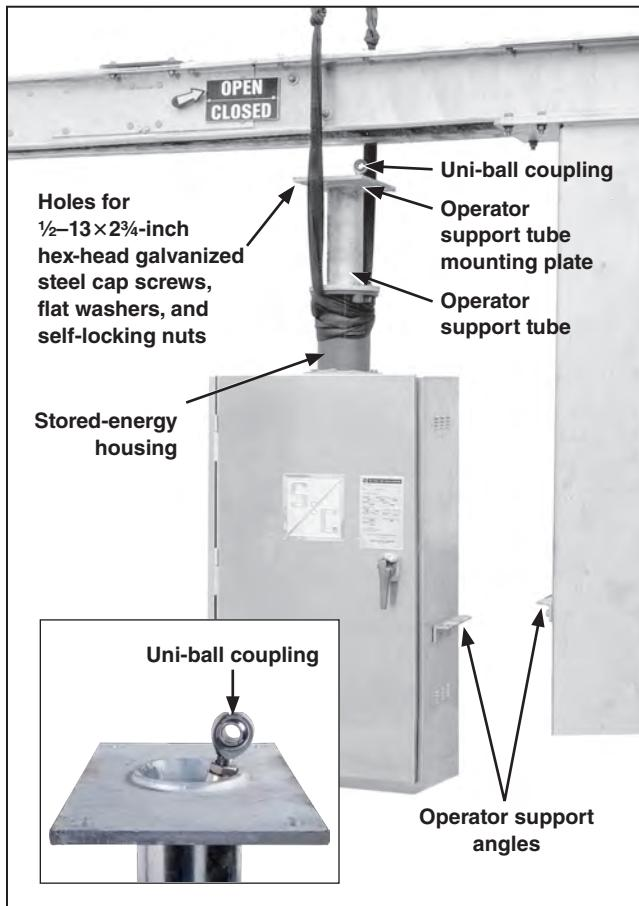

Figure 10. Hoisting the operator into position below the high-speed base using a lifting crane.
STEP 3. Remove the skid and bracing running the length of the operator, stored-energy housing, and operator support tube. See Figure 9. Also remove the protective packing on top of the operator support tube as well as the protective covers on the operator enclosure louvers. See Figure 9 and Figure 10.
STEP 4. Reposition the lifting sling around the front of the stored-energy housing and wrap another lifting sling around the back of the stored-energy housing, as shown in Figure 10. Face the operator door the same direction as the SWITCH POSITION indicator on the high-speed base. Hoist the operator into place.
STEP 6. Attach the operator support angle to the appropriate mounting pedestal using two $\frac{5}{8}$ -11×14-inch hex-head galvanized steel cap screws, four flat washers, and two self-locking hex nuts. Refer to the catalog drawing for exact placement. See Figure 10 on page 14.